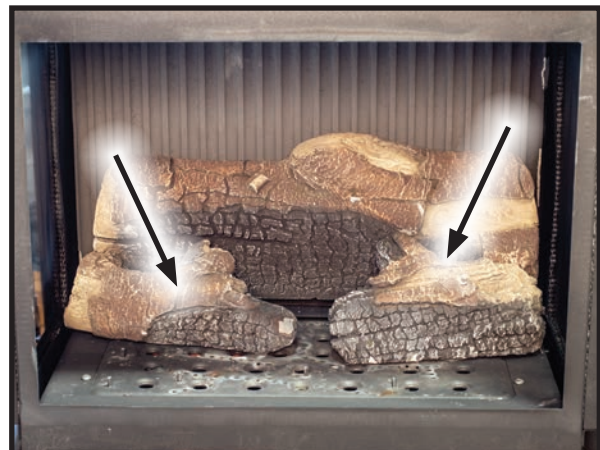

Figure 45. Log #5 & #6 Placement
2. Place Log #5 on the left and Log #6 on the right in front of Log #8. Line up the bottom holes with the pins on the burner pan (Figure 45).